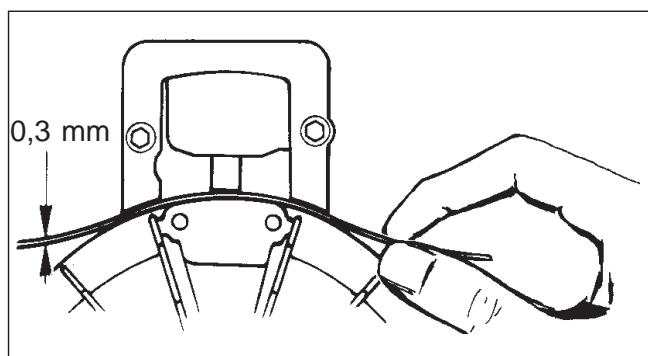

Fig. 18
- Place a 0.30 mm gauge or metal strip of at least 100 mm in length across the magnets. (Fig 18).